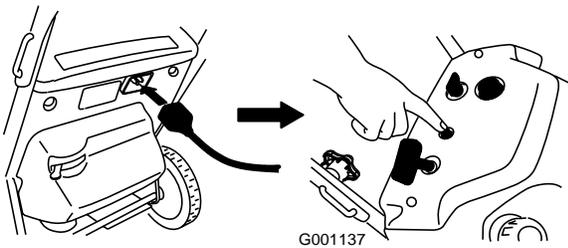
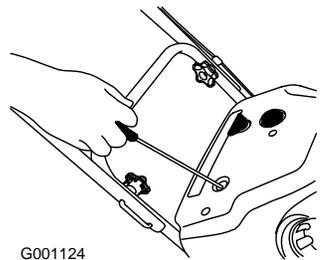

Figure 14
Figure 15
4. Start the engine using either the electric-start button (Figure 14) or the recoil starter (Figure 15).